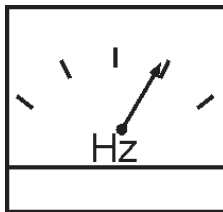

Figure 42. Frequency Meter
7. The generator's frequency meter (Figure 42) should be displaying the 50 cycle output frequency in **HERTZ**.